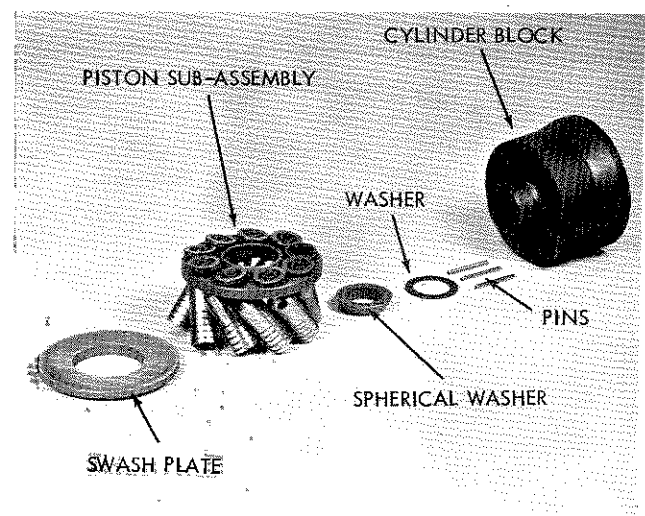

Figure VI-19. Disassembly of Rotating Group Assembly
- c. Complete disassembly of rotating group assembly as shown in Figure VI-19.